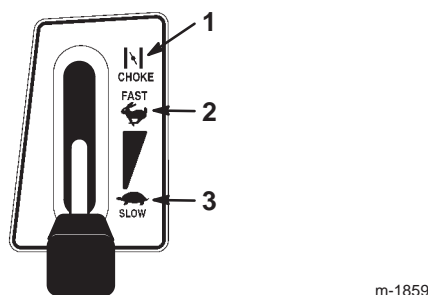

Figure 9
4. Shift the throttle lever to Choke (Fig. 9).
6. After the engine starts, slowly shift the throttle lever to Fast (Fig. 9). If the engine stalls or hesitates, shift the throttle lever back to Choke for a few seconds. Then shift the throttle lever to Fast. Repeat this as required.
1. Shift the throttle lever to Fast (Fig. 9).